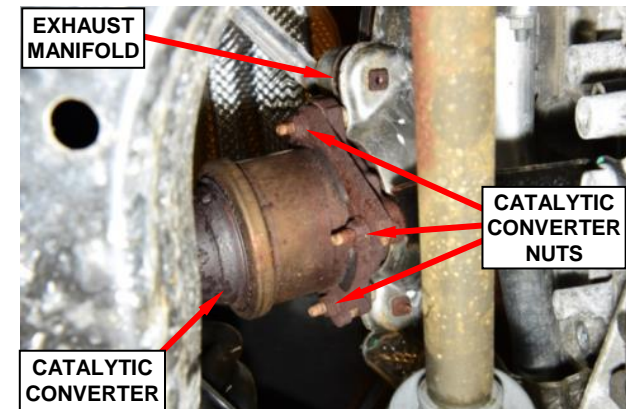

Figure 93 – Catalytic Converter Nuts
79. Remove and discard the four nuts securing the catalytic converter to the exhaust manifold (Figure 93).